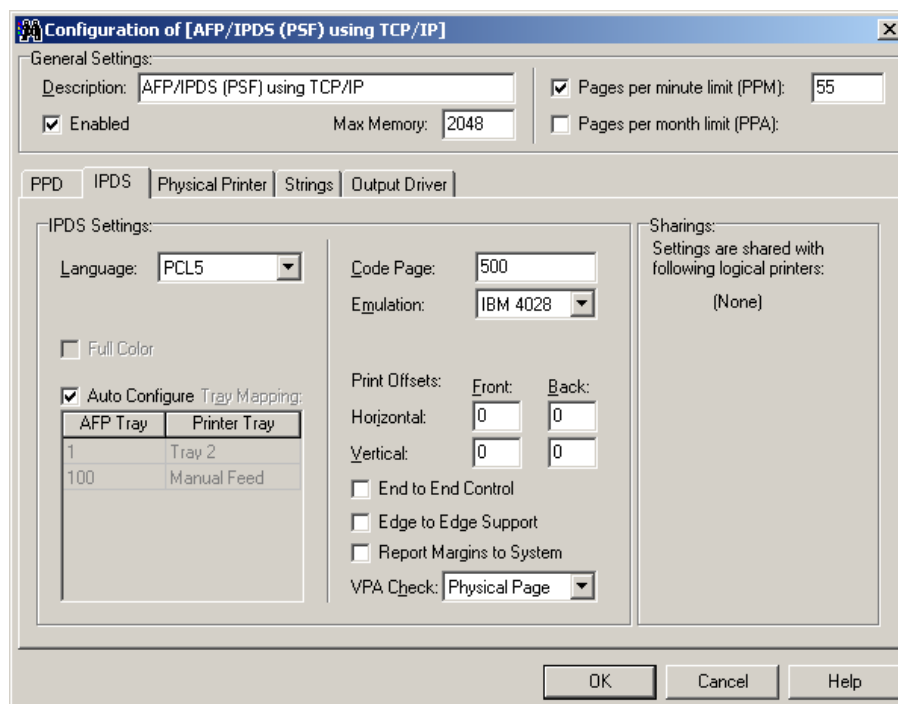

Figure 20
6. Click the **IPDS** tab, and edit the settings to match your needs. See Figure 20.